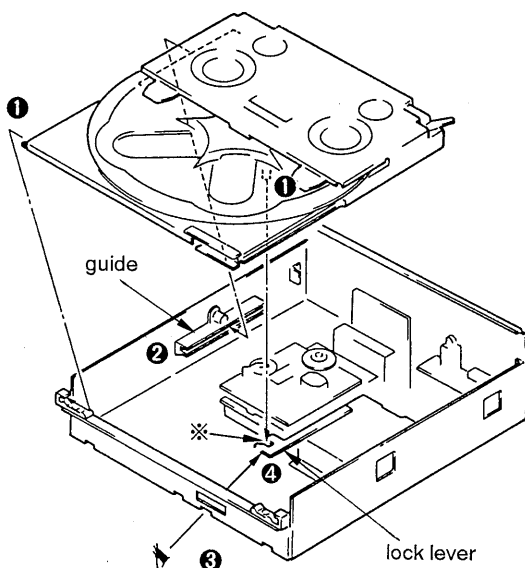

Fig. 3
3. Mesh the left slide part of the station base (figure 3-①) with the guide (figure 3-②).
4. Put the boss of the station base into the ditch of “※” of the figure 3-④ (lock lever), seeing through from the squared hole on the chassis ass'y on figure 3-③.